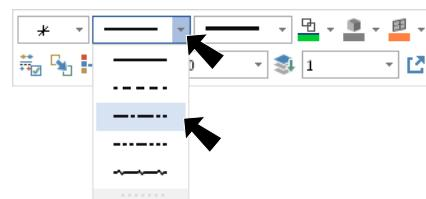

Fig. 4
Step 1. Change line style to center. Right click in the graphics window and on the Mini Toolbar click Line Style drop down arrow and select center line, Fig. 4.